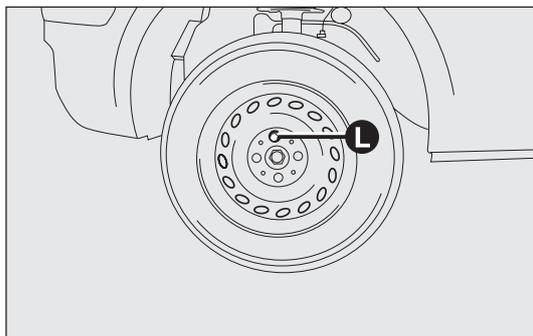

fig. 128
- fit the standard wheel by inserting the first bolt L - fig. 128 into the hole close to the inflation valve;